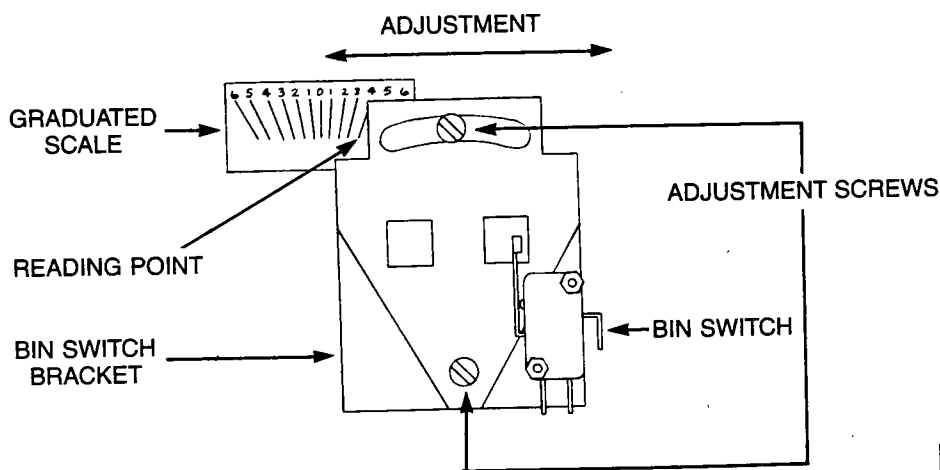
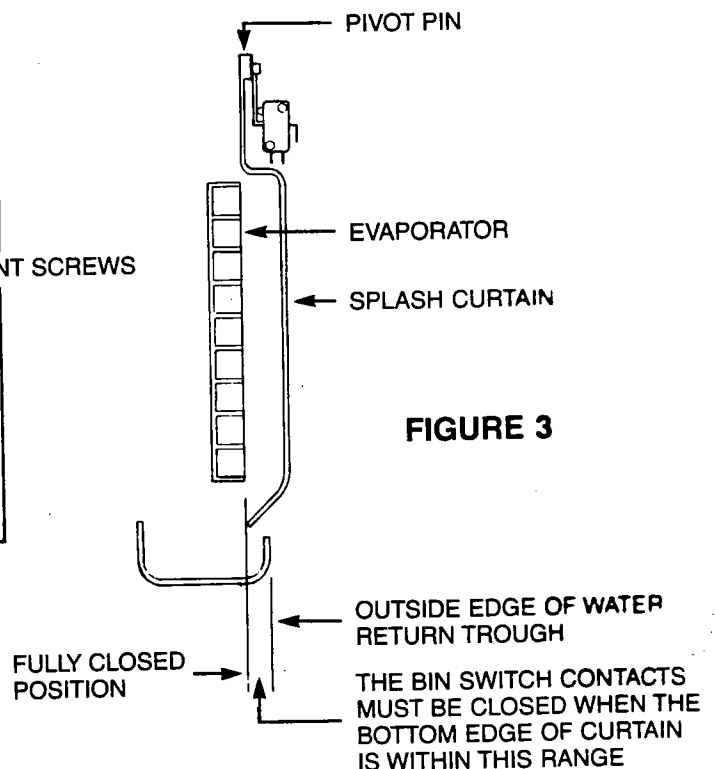

FIGURE 2
FIGURE 3
d. Loosen the adjustment screw on the bin switch bracket (ref. to figure 2) while holding the evaporator splash curtain even with the edge of water trough (ref. to figure 3) connect a continuity test across terminals N.C. and C. terminals, you should have no continuity. Once the splash curtain is beyond the outside edge of water trough, you should have continuity.
e. Check the curtain and switch movement per figure 3, and re-adjust as necessary.